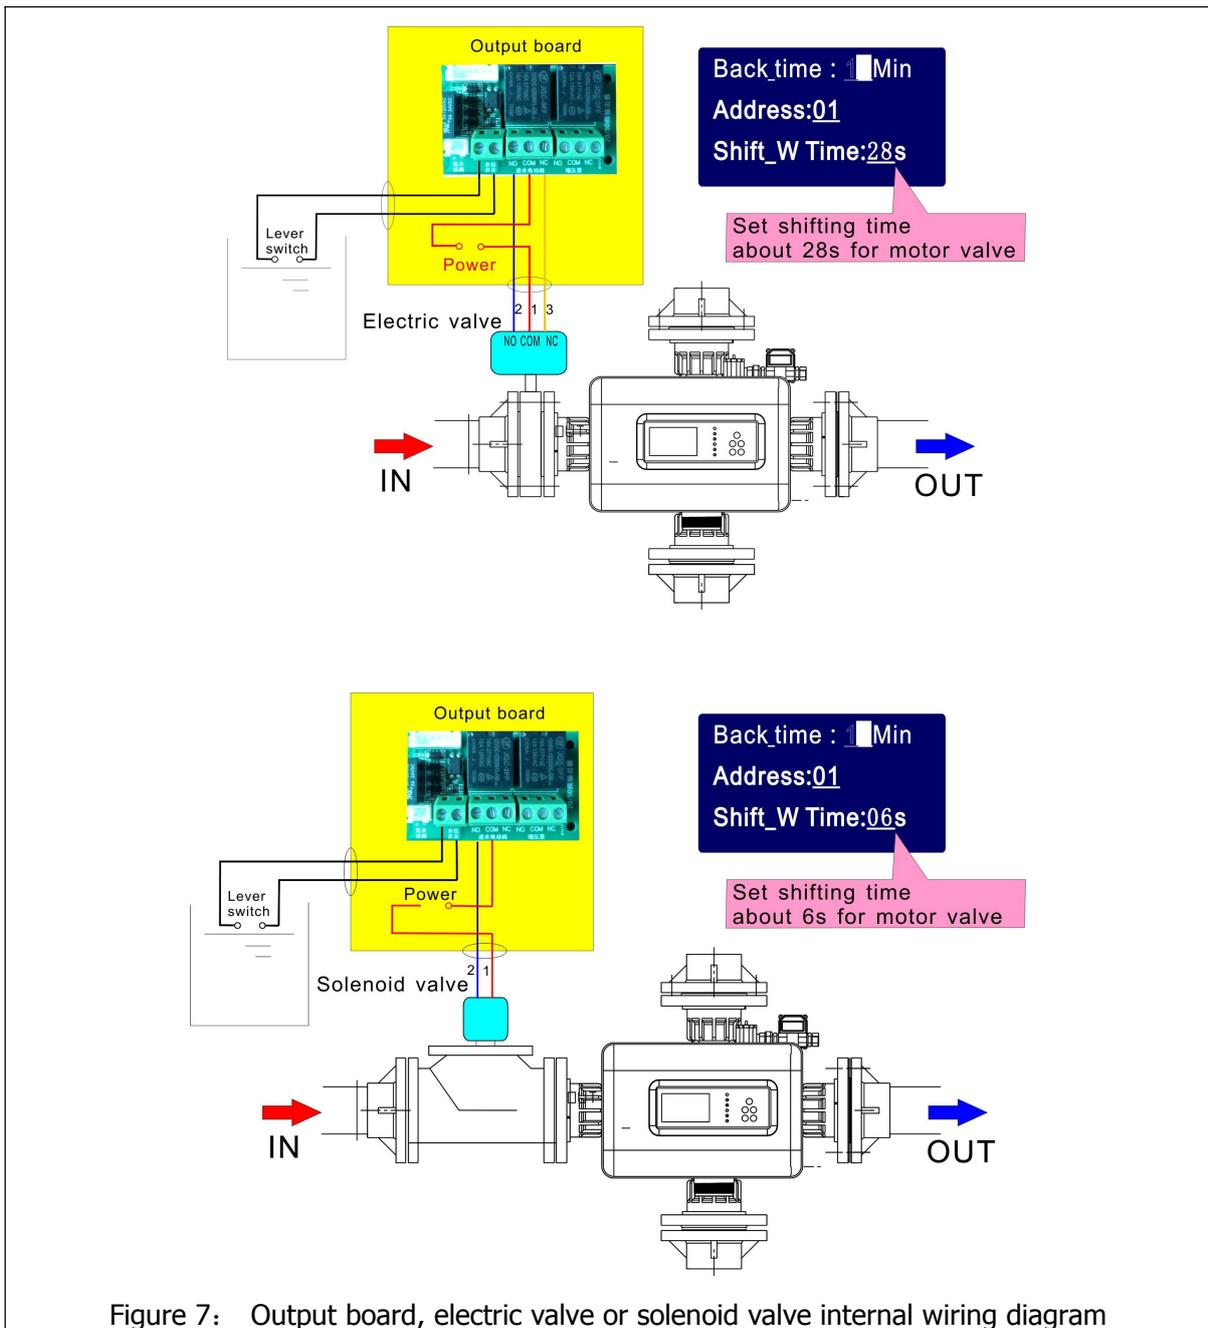

Figure 7: Output board, electric valve or solenoid valve internal wiring diagram
- 4, **“Electric valve”** : Output wiring of inlet electric valve or solenoid valve is shown in Figure 7.